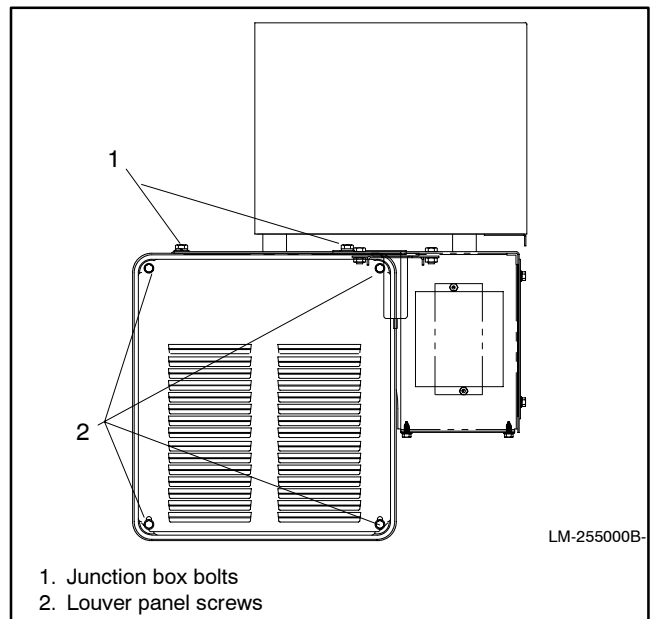

Figure 6-14 Junction Box Bolts
7. Remove bolts securing junction box to adapter. See Figure 6-14. Remove voltage regulator circuit board to access inaccessible junction box mounting bolts.
9. Remove four screws securing louvered panel to end bracket. See Figure 6-14.